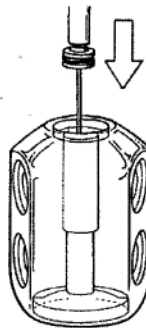

Fig. 5
- Place the O-ring (9) on the seat (10) of the UA valve and, using a mounting tool, push the seat into the gearbox housing channel until it is fully seated (see Figure 5).